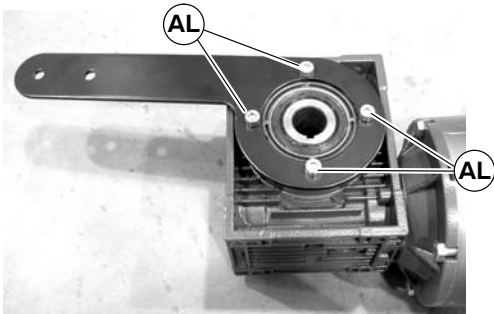

Figure 15
2. If required, change gearmotor position by removing four (4) screws (AL of Figure 15). Rotate gearmotor mounting plate to other position and replace screws (AL). Tighten to 200 in-lb (22.5 Nm).